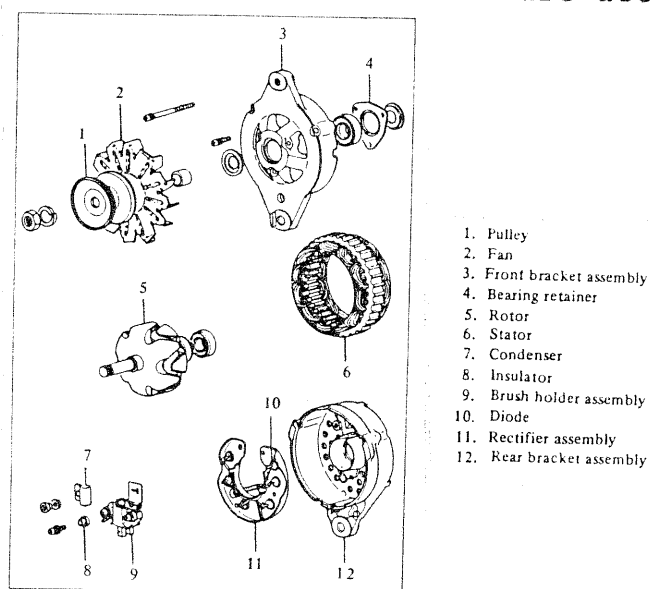

Figure 4.3-A. DC Alternator Components
4.3.1- CONSTRUCTION (Figure 4.3-A)